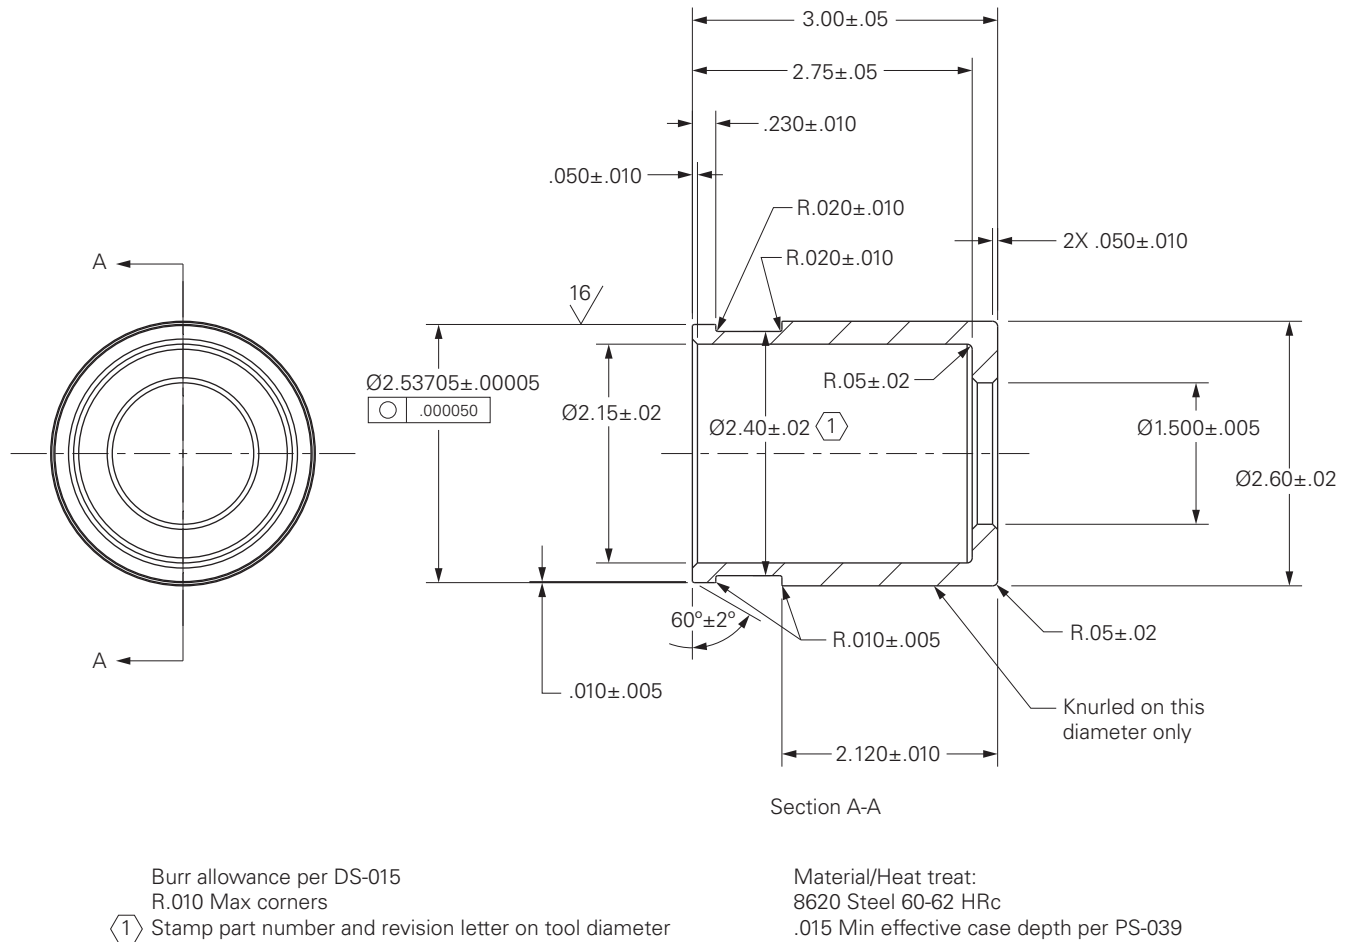

Figure 14. Dust Seal No Go Gauge (6040727-001)
- b. Use the dust seal no go gauge (Figure 14) to check the mounting flange bore for the proper press fit with the dust seal.